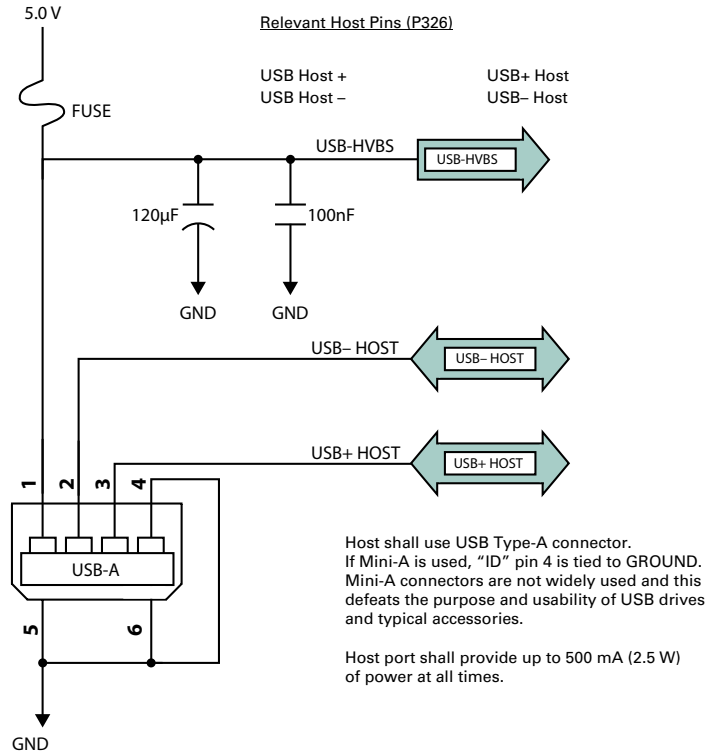

Figure 2-7: P326 USB host design example
- USB host port (data storage) shown in Figure 2-7 on page 17 serves as a data storage port, such as with a USB flash drive